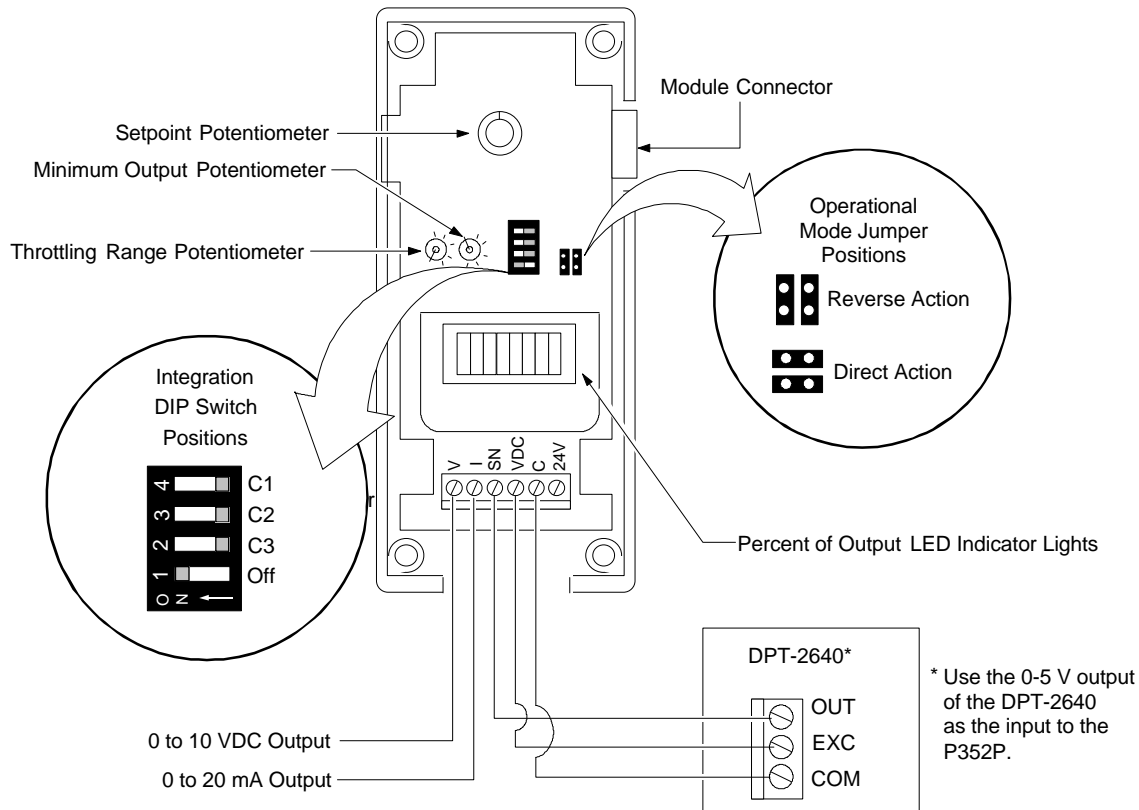

Figure 2: Interior View Showing P352P Features
The P352P has three field-selectable integration constants as well as an off position. The DIP switch block that selects the integration constant is located on the lower circuit board next to the RA/DA mode jumper blocks (see Figure 2). The field-selectable integration constants include:
2. Set the RA/DA jumper blocks to the desired mode of operation. Position the jumper blocks vertically for RA (Reverse Acting) or horizontally for DA (Direct Acting) (see Figure 2).
- a. Connect a Digital Voltmeter (DVM) between the “24 V” (+) and “C” (-) terminals located on the P352P’s terminal block (Figure 2).